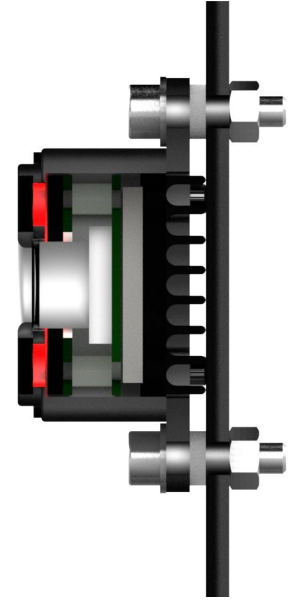

Figure 4. Front-panel mounting example
The bottom casing (flat) part includes four slots for mounting the camera using M4 screws. You can mount the Terabee 3Dcam 80x60 using the following two methods: (1) front-panel mount using the long M4 screw slots or (2) for a more discreet and integrated look use the back-panel mounting shoulder in the front side of the camera. The 3mm ledge offers users the possibility to mount the camera behind a surface (e.g. panel), ideally with a 3mm thickness. See figures 4 and 5 for visualizations. Please note that mounting components (e.g. screws) are not included in the product package. For more information on mounting, please contact us at terabee-sales@terabee.com.